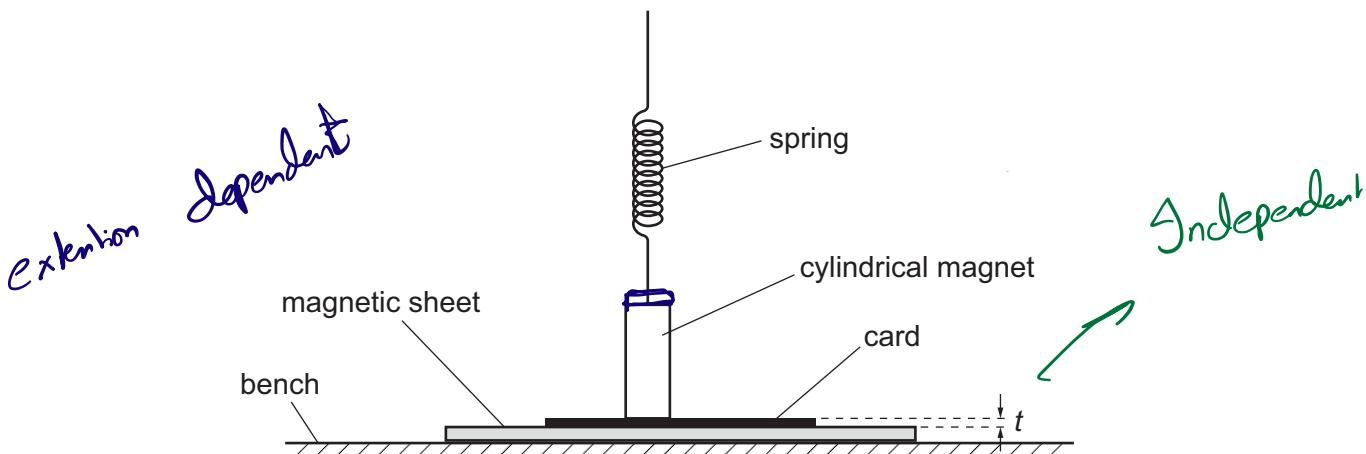

Fig. 1.1
- 1 A spring is attached to a strong cylindrical magnet of length  $L$  and cross-sectional area  $A$ . The magnet is placed on thin card on top of a magnetic sheet on the bench, as shown in Fig. 1.1.